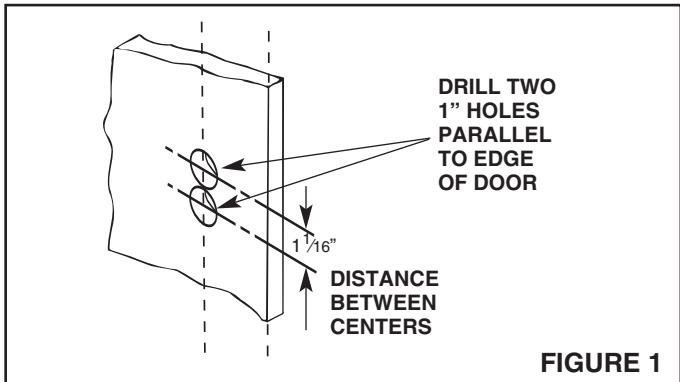

FIGURE 1
- Refer to Figure 1. Mark the location of the mounting holes parallel to the edge of the door. **NOTE:** It is important that the holes are parallel to the edge of the door for proper operation of the chime.